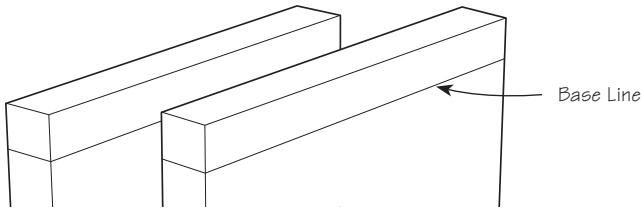

Figure 5: Striking the base lines on the boards.
3. Use the marking gauge to strike a line on all four surfaces of each board (see **Figure 5**).